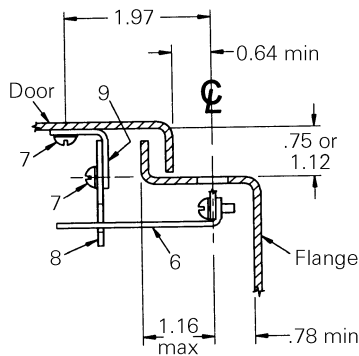
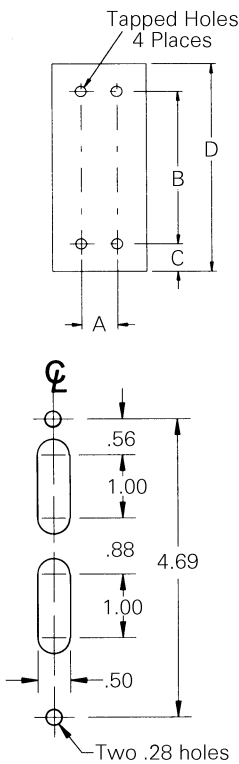
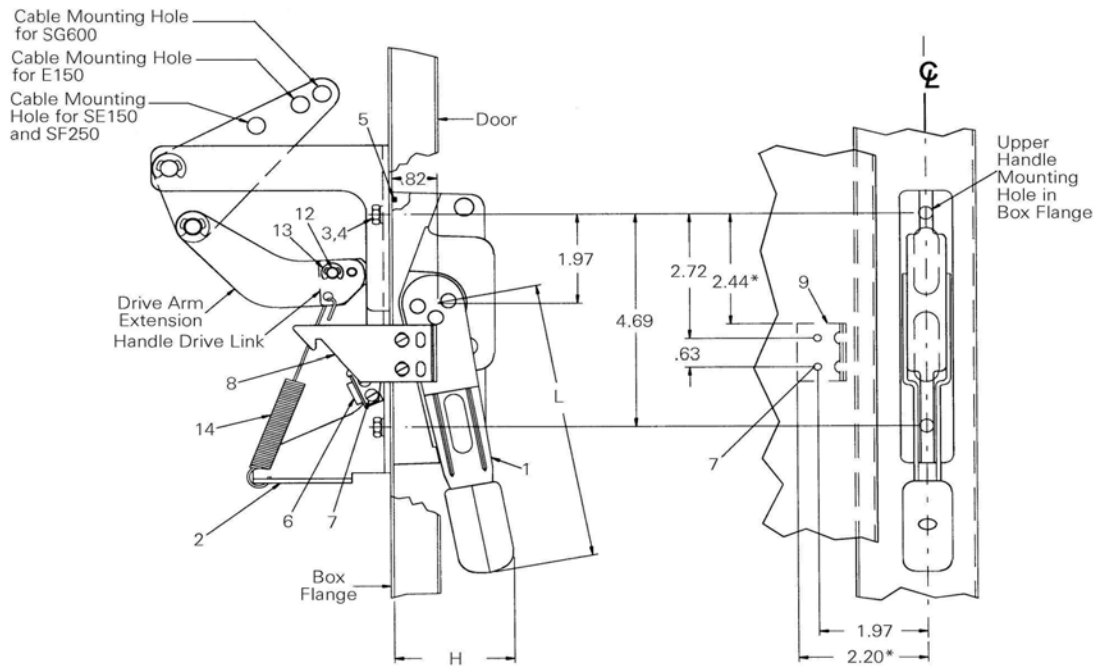

Figure 1. End view of flange and cover (right end shown).
Figure 2. Flange details.
Figure 3. Handle Installation.
Table 4. Handle Dimensions (see Figure 3)
- Referring to Figure 1, Figure 2, and Figure 3, determine the location of the handle on the flange of the enclosure. The handle can be mounted on either the right or left side of the enclosure.
- If the flange is not provided with handle holes and slots, drill these as shown in Figures 1 and 2. Remove any burrs.
- Assemble the interlock blade [6] to the handle with two #8-32 sems screws [7], as shown in Figure 1.
- Assemble the drive arm extension to the handle drive link with the connecting pin [12]. Secure the connection with an E-ring [13], as shown in Figure 3.
- Attach one end of the handle-return spring [14] to the hole in the drive link and the drive arm extension. Attach the other end to the hole in the lower flange of the cable adapter assembly, as illustrated in Figure 3.
- Drill and tap two #8-32 holes in the cover, as shown in Figures 1 and 3. Assemble the interlock bracket [9] to the cover with two #8-32 sems screws [7] from inside the door. Alternatively, the bracket may be welded to the cover, using the dimensions noted with an asterisk (*) in Figure 3, to locate the upper-left corner of the bracket, as illustrated in Figure 1.
Refer to Figures 3 and 7.